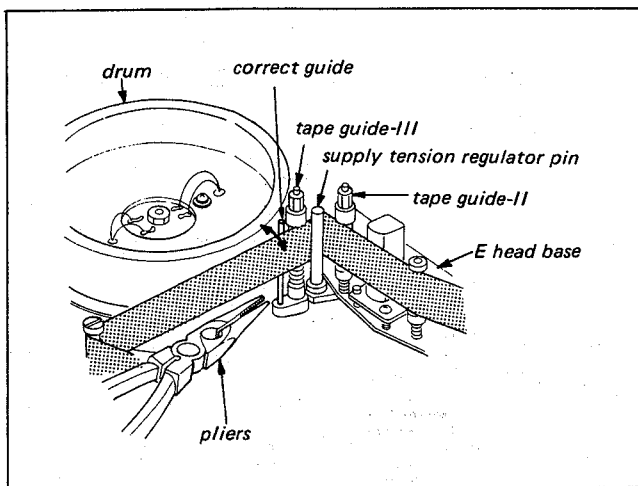

Fig. 6-11. Rewind tape run adj. (REW mode with tape)
4. Observe the running tape at the Tape Guide II at the Tape Guide III, shown in Fig. 6-11. Check to see tape runs without curl at Tape Guide II and Tape Guide III. If tape curls, bend bottom of correct guide shown in Fig. 6-11 with pliers.